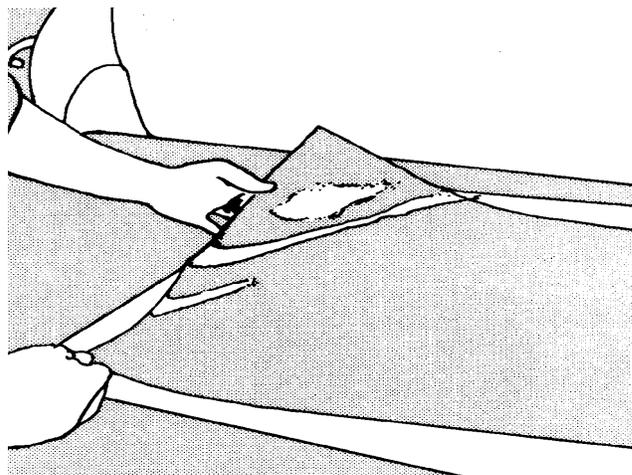

Figure 2. Lifting and Turning over the Film
7. Lift and turn over the film, adhesive side down, onto the wetted substrate and correctly align with any registration marks. See Figure 2.